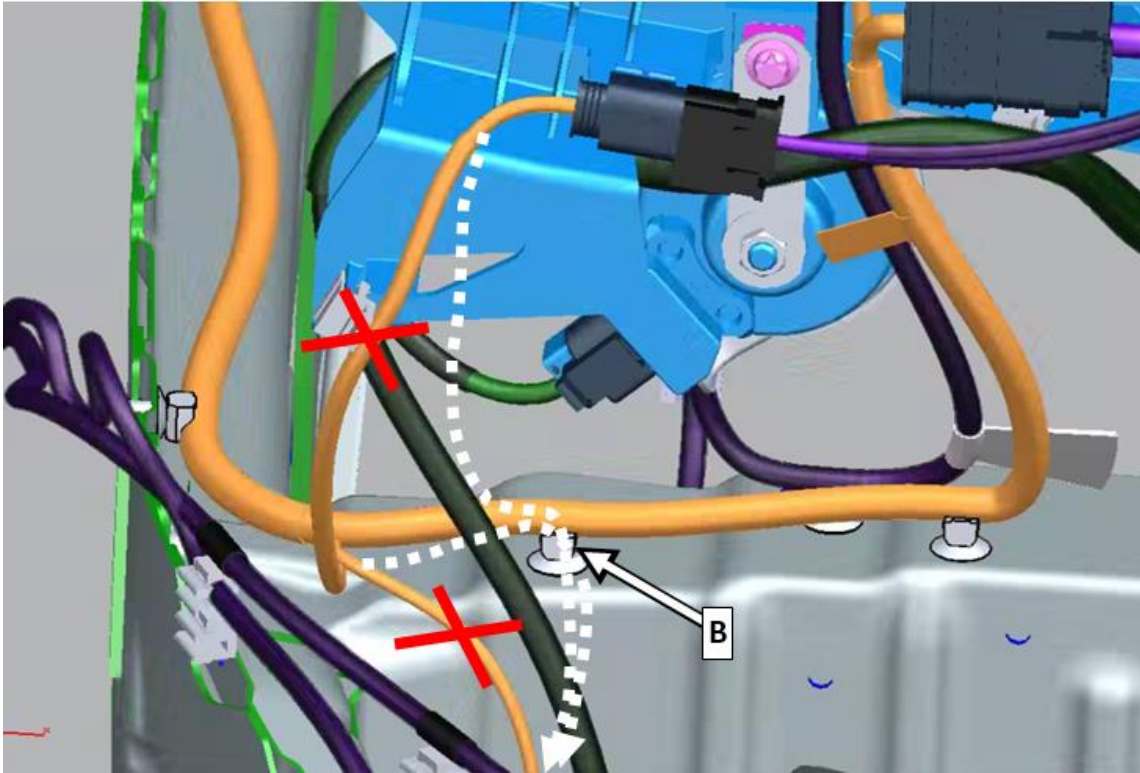

Figure 4
3. Route wiring harness according to **figure 4 and 5**. Fasten with new cable tie to bracket **(B, figure 4)**.